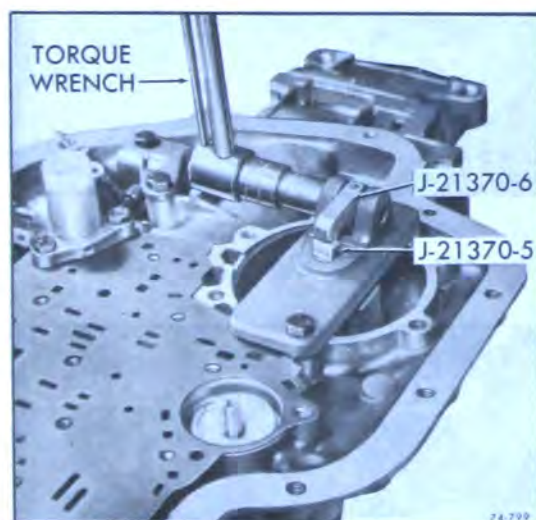

Figure 74-522
b. Apply 25 lb. ft. torque and select proper pin to be used during assembly of transmission. See Figure 74-522.